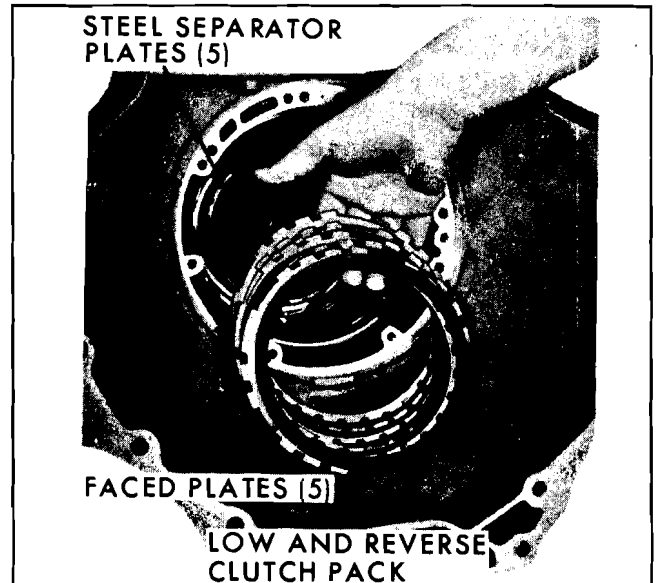

Fig. 7G-112 Installing Low and Reverse Clutch Pack (V-8 Model)
13. Install low and reverse clutch support retainer spring (Fig. 7G-32).
14. Install low and reverse roller clutch and support assembly into case, pushing firmly until support assembly is seated past the top of low and reverse clutch support retainer spring (Fig. 7G-31).
15. Install low and reverse roller clutch support-to-case retaining ring (Fig. 7G-30).